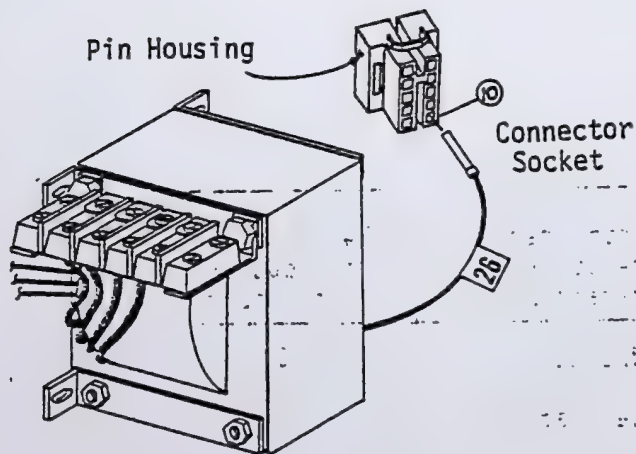

Figure 5-58. Pin Housing Insertion
2. When all eight wires on the primary side of the transformer have pins attached, insert the pin housing (P4) as shown in Figure 5-58. Insert the pins in the following order (see wiring diagram, Figure 5-50): ✓